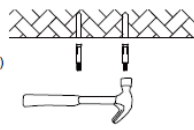

Figure 2
2. Use a hammer to install the 2 expansion screws (included) into the holes (Figure 2).